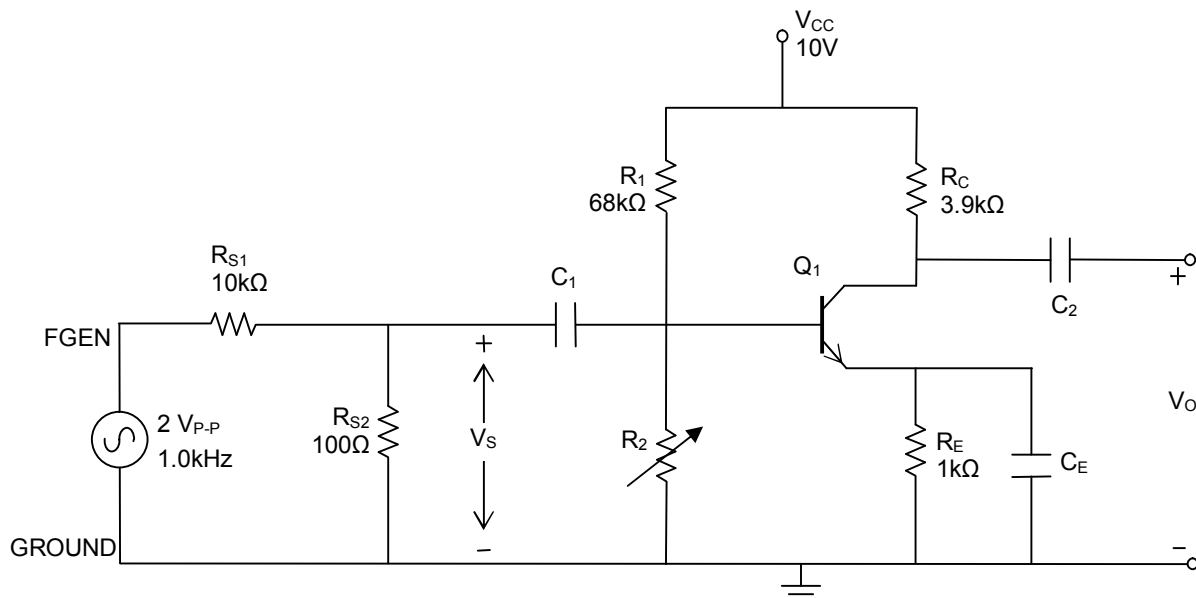

Figure 6.4: CE Amplifier with voltage divider circuit
- Set up the circuit in Figure 6.4 with the capacitors (use  $22\mu F$  or  $47\mu F$ ) and voltage divider. To apply  $V_S$  to the input of the amplifier, set FGGEN to  $2.0V_{P-P}$ , 1kHz, as input to the voltage divider, as discussed in step 3. Make sure your input is right by connecting the oscilloscope's CH0 to the function generator. **THIS IS A VERY COMMON ERROR, RESULTING IN WRONG OR UNEXPECTED OUTPUT.** If your input voltage is too large, you will clip the top and/or bottom of your output voltage. **DO NOT MAKE GAIN MEASUREMENTS ON A CLIPPED OR DISTORTED OUTPUT WAVEFORM!!!**